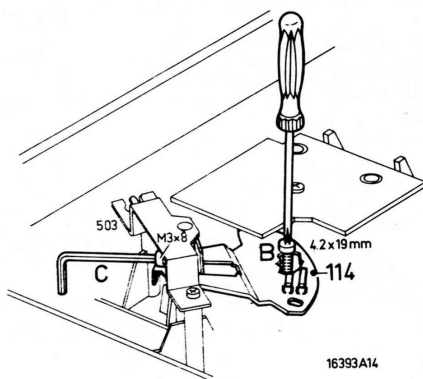

Fig. 4
**1. Adjusting the start/stop bracket 114 (Fig. 4)**
## 1. Instelling start-stopbeugel 114 (Fig. 4)